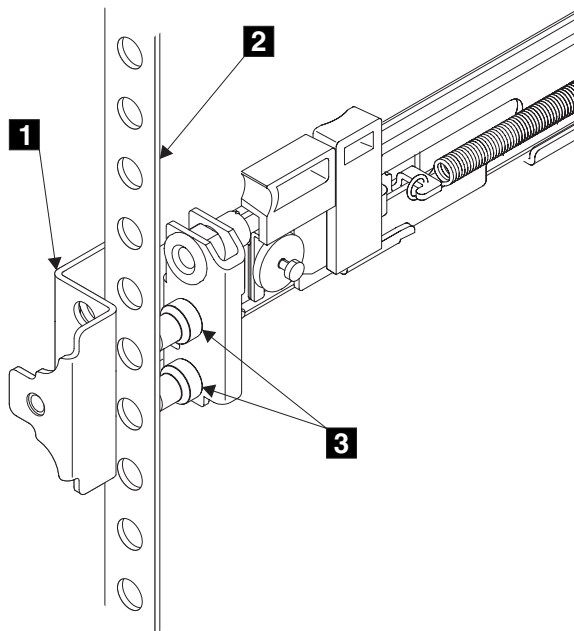

Figure 128. Installing the front end of the rail
11. Place the front end of the left rail in the rack cabinet. Align the top of the front bracket **1** (Figure 128) with the required EIA marking that is on the rack.